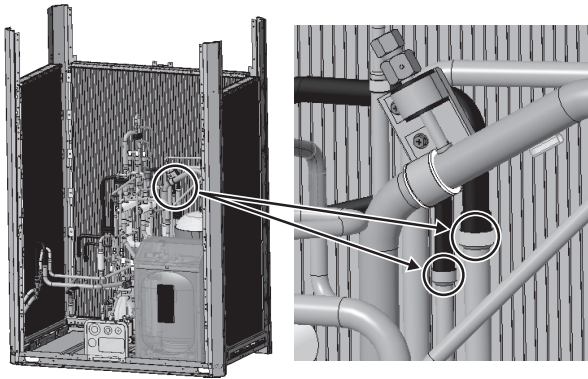

Fig. 52 Brazing point of the rear heat exchanger piping
(1) Remove the brazing from the piping. (Two areas to remove brazing: Fig. 52)